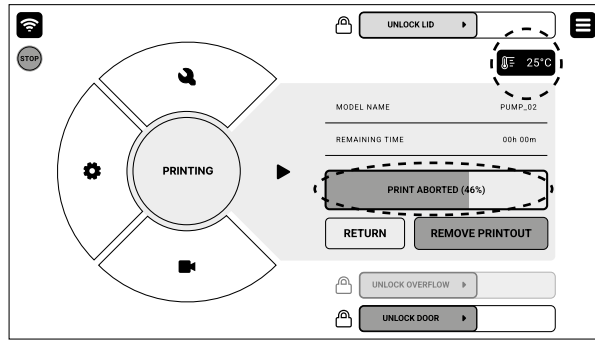

Fig. 7.3 Screen during printing with the **E-STOP** button pushed in.
2. **E-STOP button on + Printer inside is \geq 50 [°C]** (while printing or cooling) – **PRINT ABORTED** message will be displayed on the screen. Unlock the **E-STOP** button. The opening is not possible until the temperature inside drops below 50[°C]. Wait, and then press the **REMOVE PRINTOUT** or **UNLOCK LID** button (fig. 7.3).